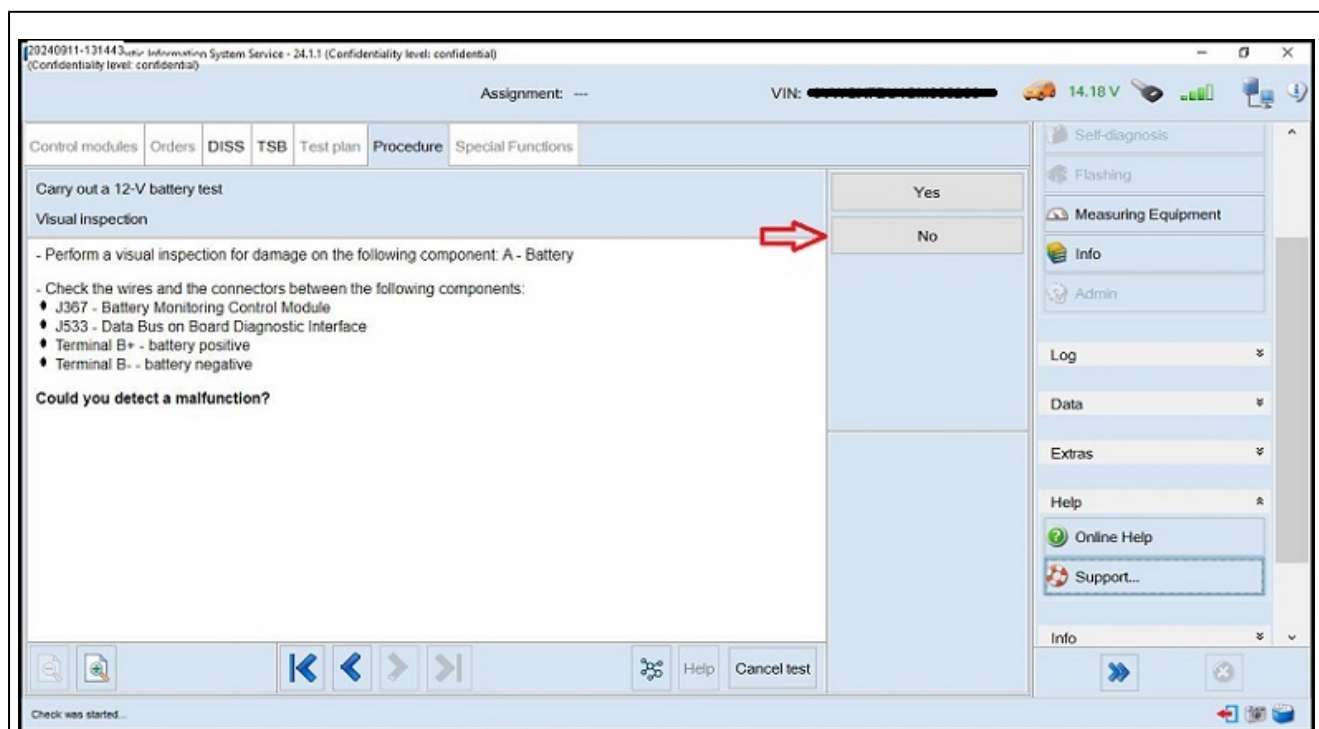

Figure 3.
3. Perform a visual inspection for damage on the listed components. If did not detect a malfunction select No (Figure 3).